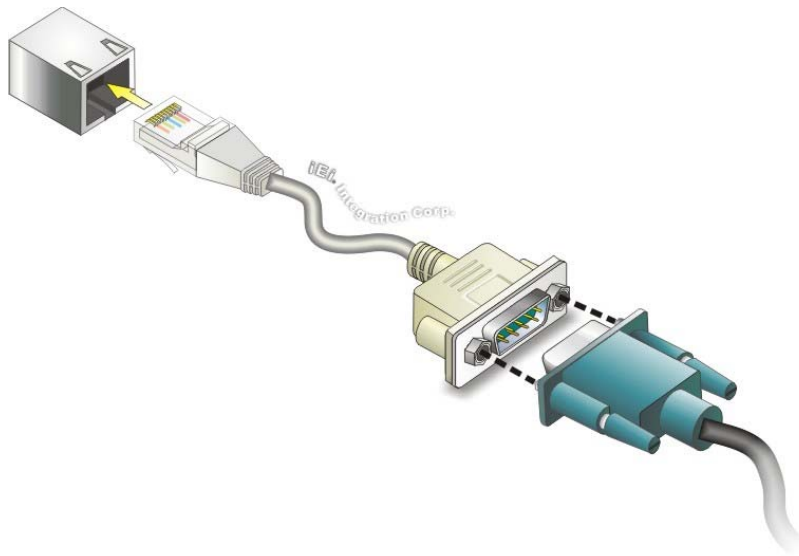

Figure 3-15: Serial Device Connector
Step 2: Insert the RJ-45 to D-sub 9 cable. See **Figure 3-15**.